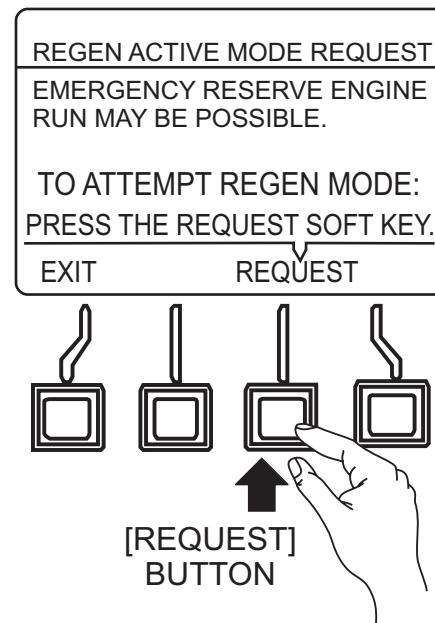

Figure 88. Regen Request
3. Press and hold the "REQUEST" button (Figure 88) until the "REGEN ACTIVE" message is displayed on the monitor and then release button.